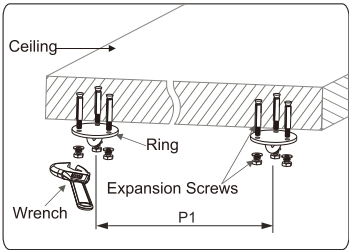

Figure 1
- 1. Fix the rings (not accessories) on the ceiling according to the distance P1 between two hooks (note: make sure each of rings can endure at least 100Kg to avoid falling down) (figure 1).